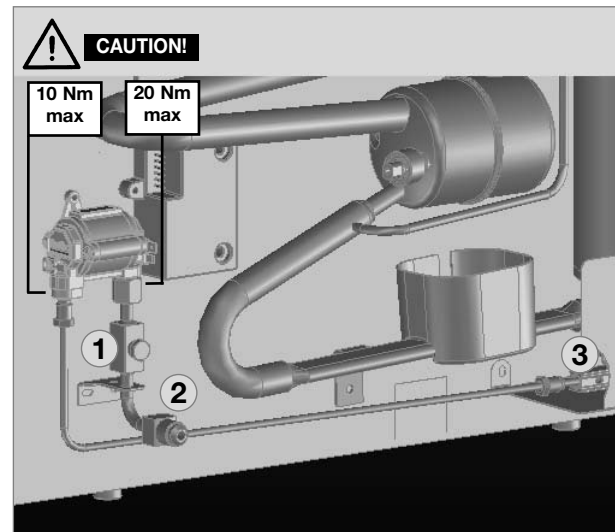

Fig. 44
- The gas connection to the appliance is 1/8" BSP Female (s. figure 44).